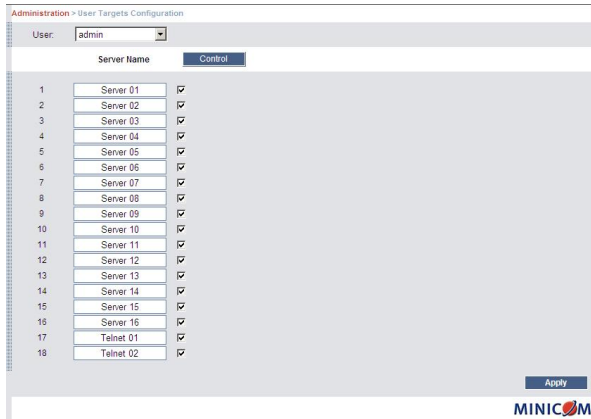

Figure 20 User Targets Configuration
1. From the menu click **User Targets**. The User Targets Configuration window appears, see Figure 20.